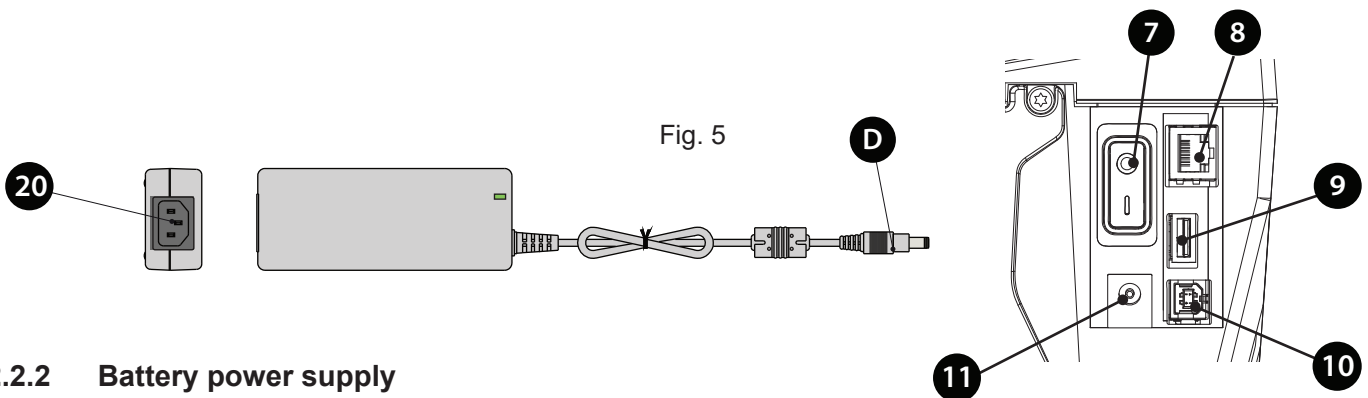

Fig. 5
- ▶ Make sure that the printer is switched off before connecting, switch (7) in position 0 (Fig. 5).
- ▶ Connect the power supply unit connector (D) to port (11) on the back of the printer.
- ▶ Connect the power cable to the connector (20) of the power supply unit and to an electrical outlet.
- ▶ Press the switch (7) so it is at position I to turn on the printer, after a short test cycle the initial screen will appear on the display (refer to § 3.1).